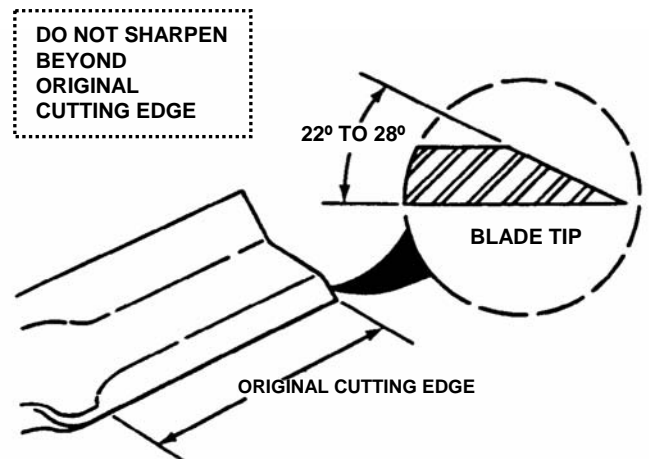

FIGURE 4.13
6. If blade is in good condition, sharpen at 22 to 28 degrees. DO NOT sharpen beyond existing cutting edge. See Figure 4.13.